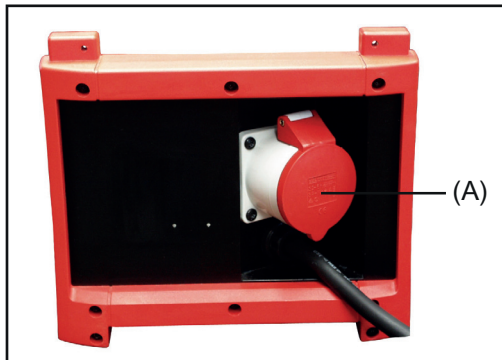

Fig. 1 400 V socket for power source
The auto-transformers enable the digital power to be used on mains voltages of 480 V or 500 V as well. The transformed voltage (400 V) for the power source is available on socket (A) on the rear of the auto-transformers (Fig.1).